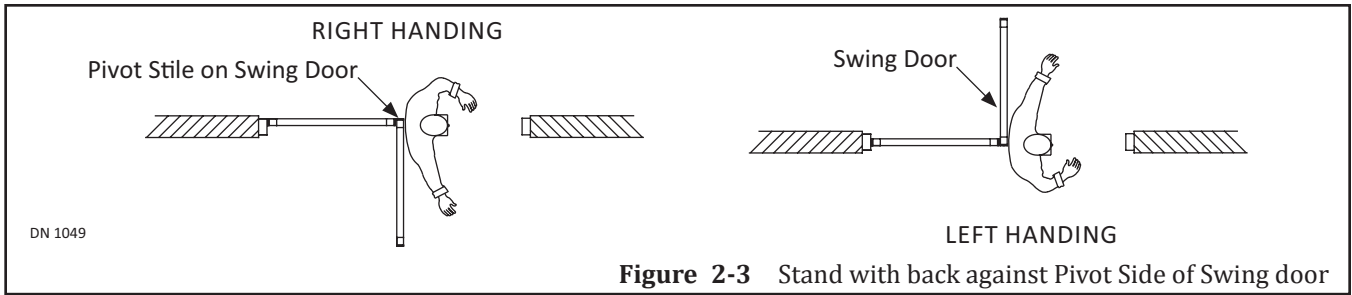

Figure 2-3 Stand with back against Pivot Side of Swing door
- ▶ To determine Handing from standing underneath the Header: Open the Swing door. Butt your back against the Pivot side of Swing door. Swing out the (right or left) arm in the direction the Swing door opened. Please see Figure 2-3.